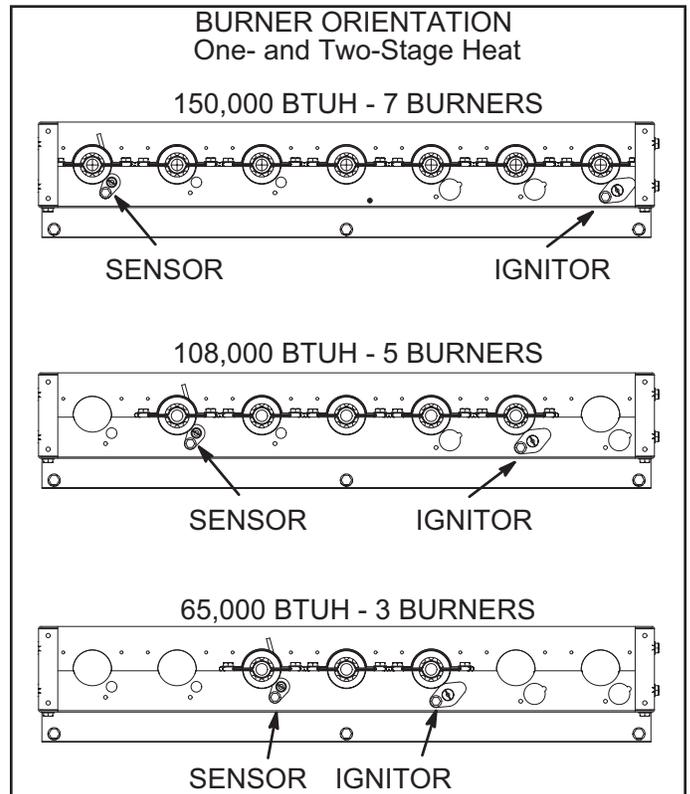

FIGURE 31
- 6 - Replace burners and screws securing burner. See FIGURE 31.